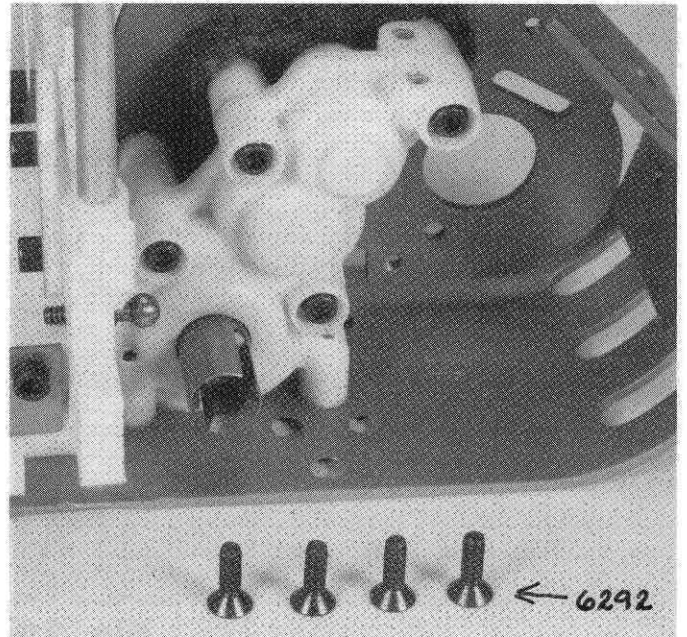

Fig. 74
□ **Fig. 74** Take the assembled Stealth tranny and install it with four #6292 4/40 x 3/8" FHSS screws from the Stealth tranny Bag F. Do not tighten the screws all the way yet. Be sure the motor mount plate is INSIDE of the chassis at the back, as shown.